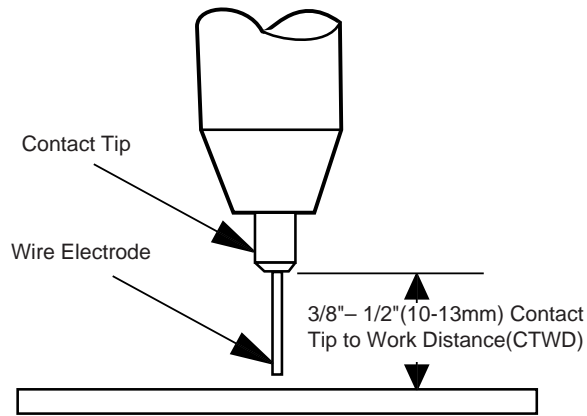

FIGURE B.6
13. Refer to Figure B.6. Cut the wire off 3/8" – 1/2" (10 – 13 mm) from the end of the tip. The SP-100T is now ready to weld.